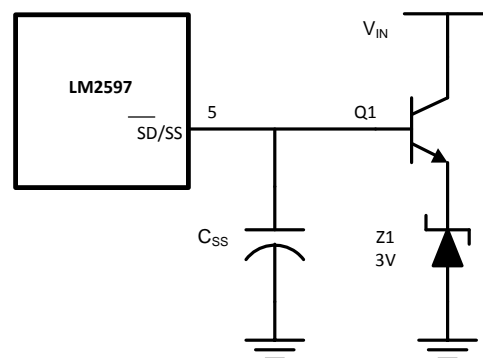

Figure 32. External 3.7-V Soft-Start Clamp
4. Normal operation – Above 2.8 V, the circuit operates as a standard Pulse Width Modulated switching regulator. The capacitor will continue to charge up until it reaches the internal clamp voltage of approximately 7 V. If this pin is driven from a voltage source, the current must limit to about 1 mA. If the part is operated with an input voltage at or below the internal soft-start clamp voltage of approximately 7 V, the voltage on the $\overline{SD/SS}$ pin tracks the input voltage and can be disturbed by a step in the voltage. To maintain proper function under these conditions, TI strongly recommends clamping the $\overline{SD/SS}$ pin externally between the 3-V maximum soft-start threshold and the 4.5-V minimum input voltage. Figure 32 is an example of an external 3.7 V (approximately) clamp that prevents a line-step related glitch but does not interfere with the soft-start behavior of the device.